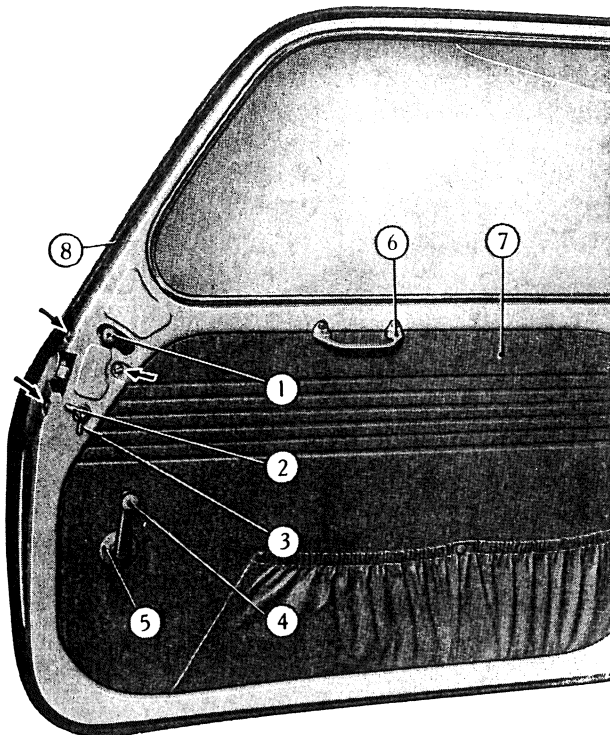

Fig. 486 - Passenger's side door locking system - Sedan.
On both models the door opposite steering wheel side is locked by a handle controlled device. The door may be opened when the handle is horizontal and is locked when the handle is turned down vertically (figs. 486 and 487).
— Remove the regulator crank (4, fig. 486) by exerting a pressure on the plastic escutcheon (5), so as to uncover the key securing the regulator crank to shaft.